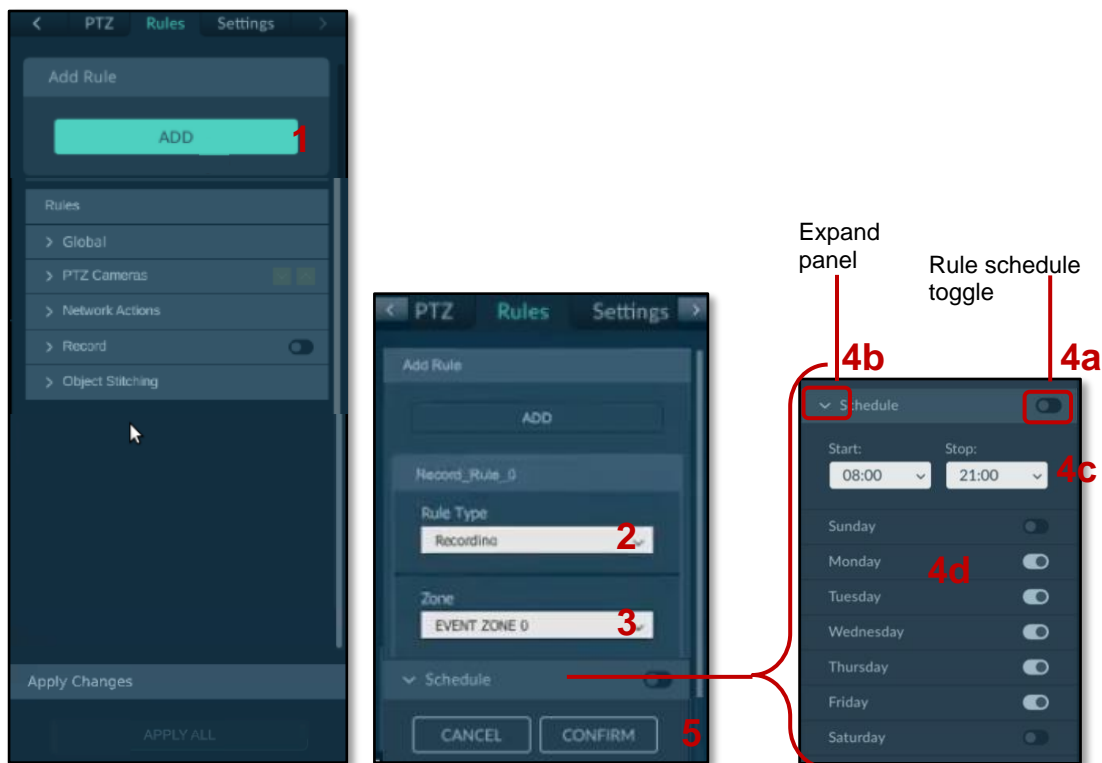

Figure 87. Record Add Rule Panel
1. From the **Configuration** panel > **Rules** tab, click **Add**. See Figure 87. Record Add Rule Panel.